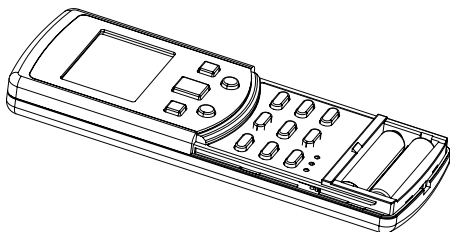

Figure 2.6
2) Remove the battery cover (see Figure 2.6);